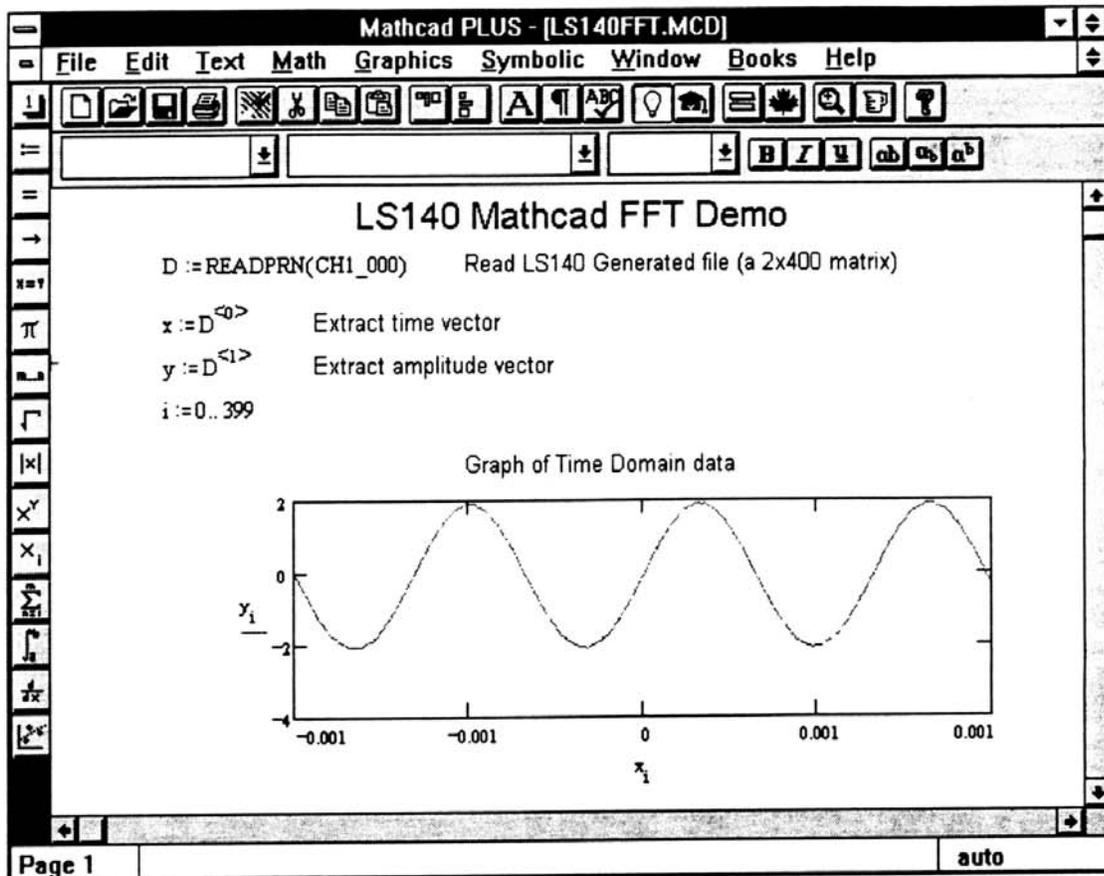

Figure 44
4. Use the READPRN(LS\_DATA) command in MathCad to read the data from the file into the matrix LS\_DATA, as shown in the figure 44.